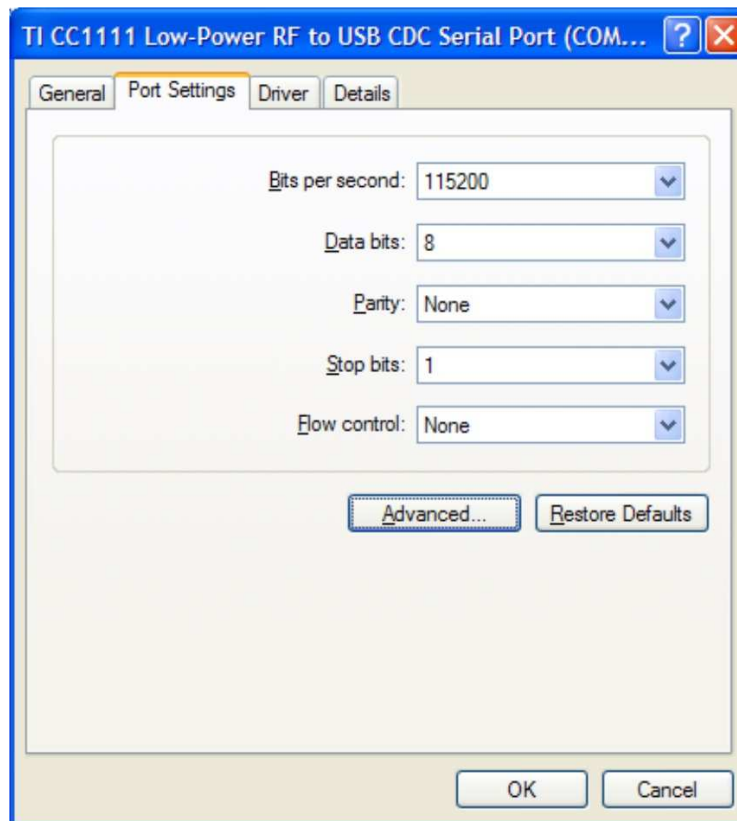

Figure B-8. CC1111 Port Settings
- Verify correct properties of the port settings (see Figure B-8).